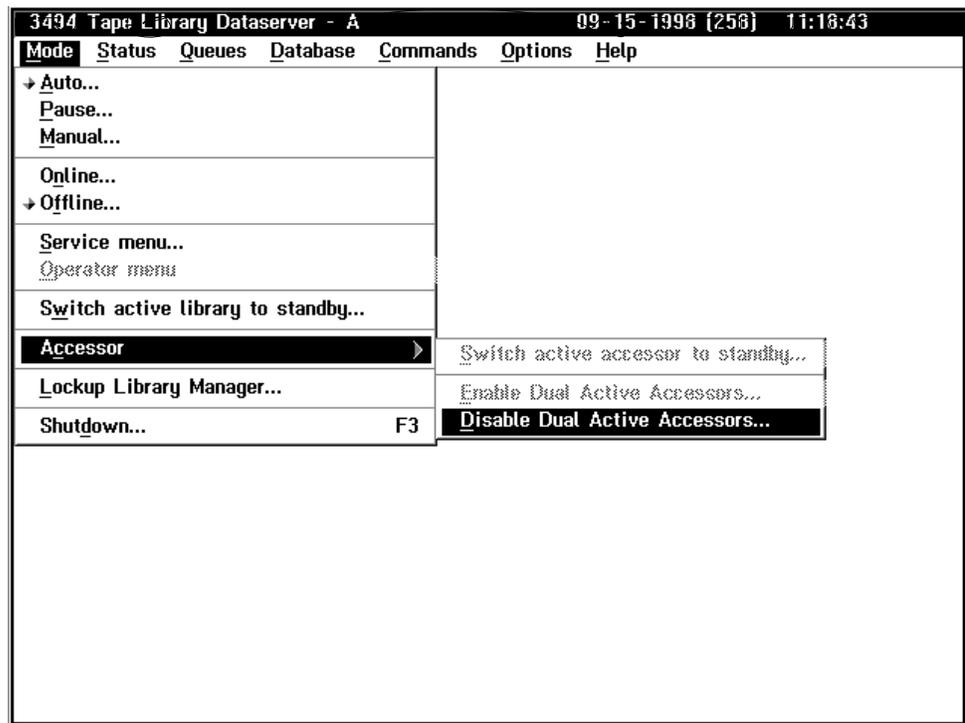

Figure 148. Mode Window
1. Select **Mode** (Figure 148) from the action bar of the Operator menu at the Library Manager (see “Using the Mode Window” on page 103).